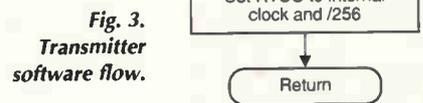

Fig. 3. Transmitter software flow.
Finally, the outputs will need to be set to their initial values and any variables, or file registers, initialised. The flow chart is shown in Fig. 3 and the corresponding code is shown in the full listing under the label INTP.
**Switch de-bounce.** A simple delay routine debounces the switches. This delay is derived from the rtc, which is set to increment via its internal clock through a 256 pre-scaler. The rtc register is cleared then the program loops until bit 7 of the rtc is set. Further flow charts are not shown here, but the complete program listing is given in Fig. 3.